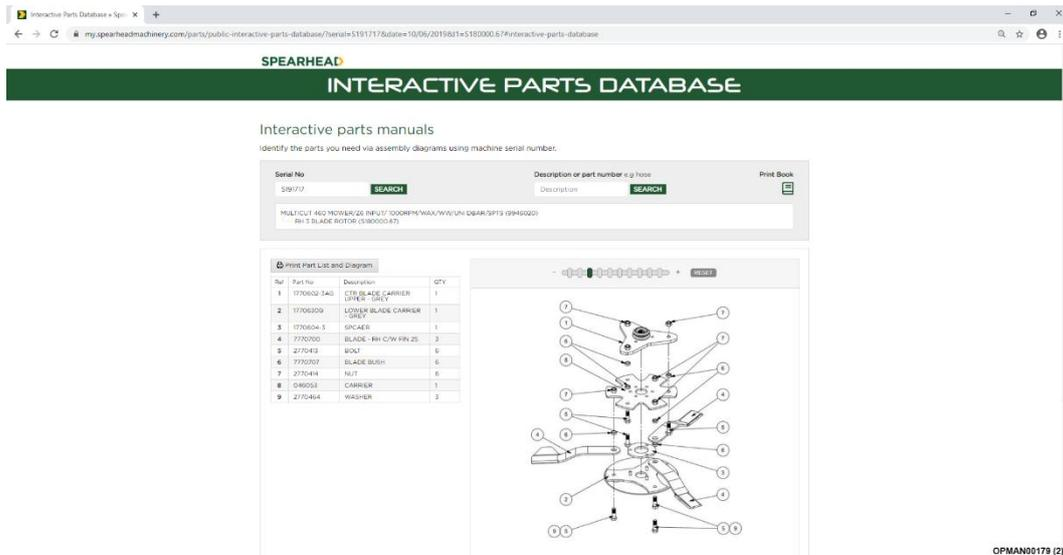

Figure 40 – Exploded Parts Breakdown With Bill Of Materials
14.1.1.4 You will finally be presented with a full exploded parts breakdown for that particular assembly, giving part numbers and the quantities required; see Figure 40.